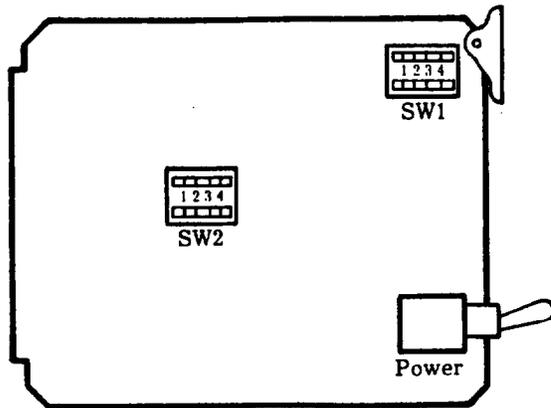
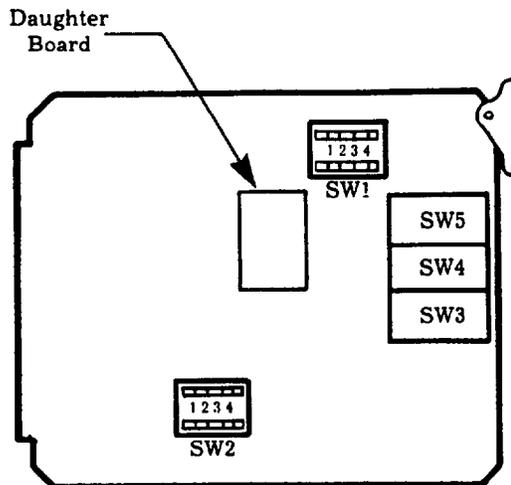

Figure II-9—Switches on the Modem/Power Supply Board
Figure II-10—Switches on the Control Board
4.09 The following switch settings are made when the equipment is first installed. These switches are all located on either the Modem/Power Supply Board or the Control Board as shown in Figure II-9 and Figure II-10. No circuit adjustments are required.